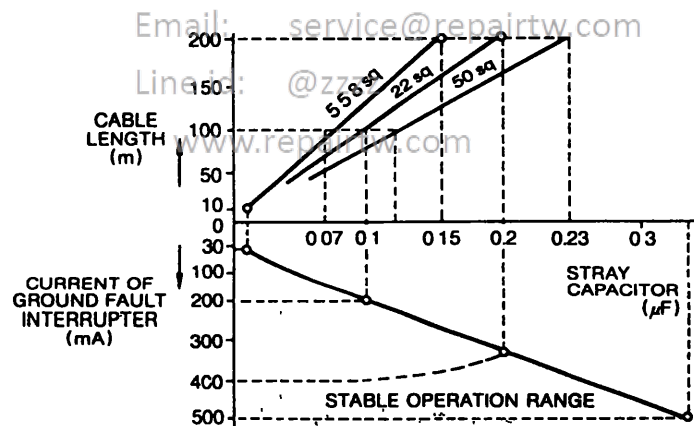

Fig. 6.8 Current Setting of Ground Fault Interrupter
- Set rated current of the ground fault interrupter to 200 mA or more and operating time, 0.2 sec or more. (Fig. 6.8).